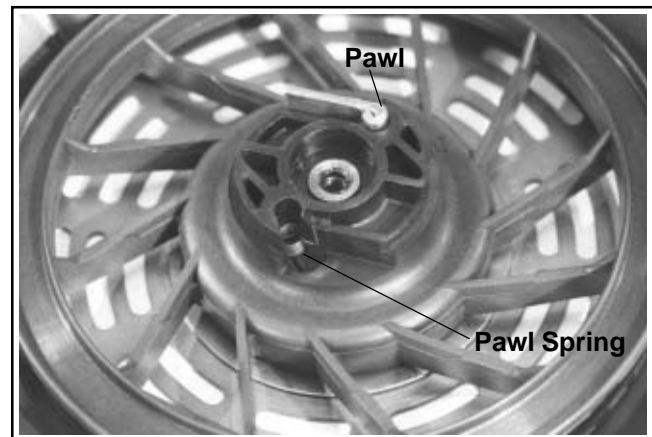

Figure 7-9. Installing Pawls and Pawl Springs.
- Install the pawl springs and pawls into the starter pulley. See Figure 7-9.